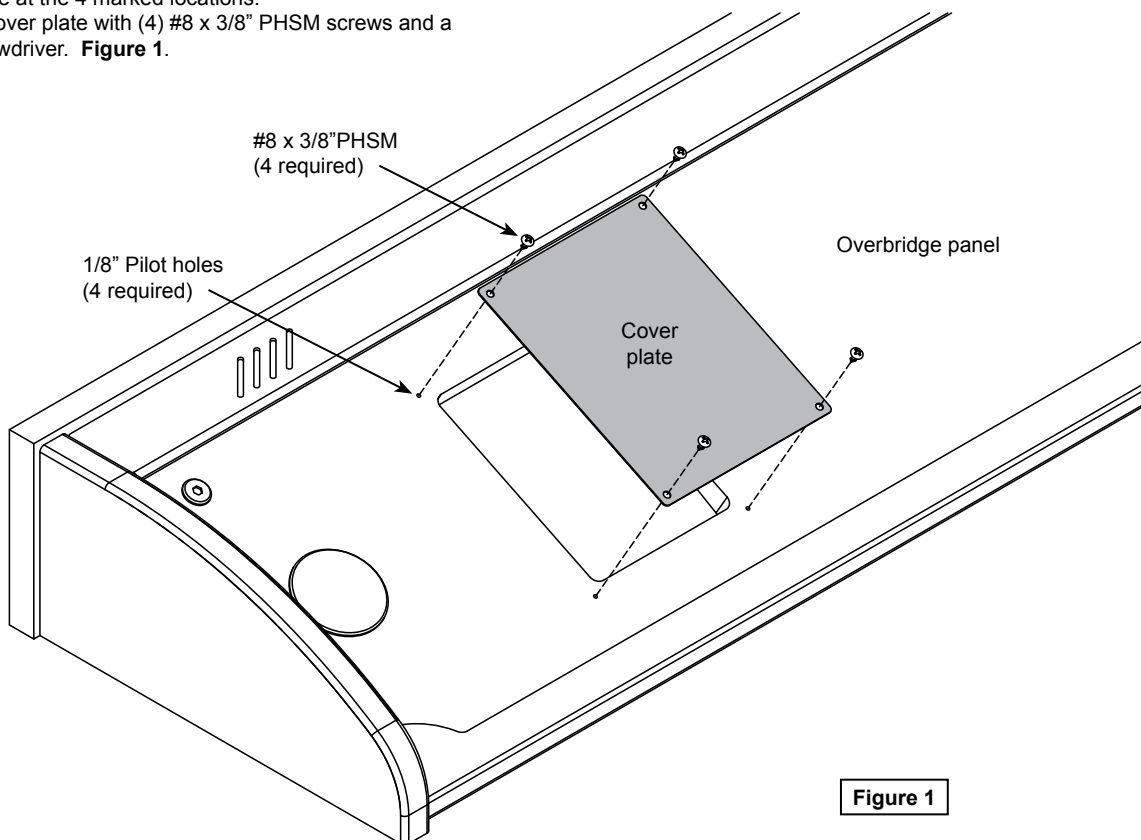

Figure 1
4. Attach the cover plate with (4) #8 x 3/8" PHSM screws and a Phillips screwdriver. **Figure 1.**